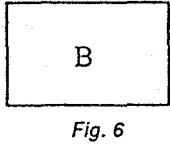

Fig. 6
(8) Switch the single color switch to B and verify the single color. Fig. 6